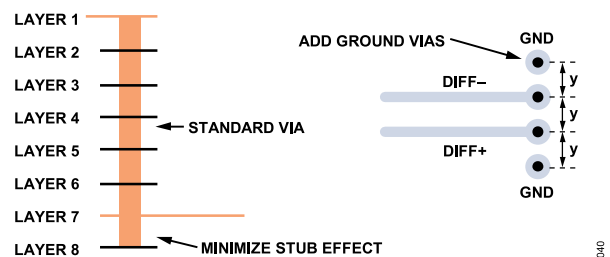

Figure 69. Minimizing Stub Effect and Adding Ground Vias for Differential Stripline Traces
- ▶ If using standard vias, use the maximum via length to minimize the stub size. For example, on an 8-layer board, use Layer 7 for the stripline pair (see Figure 69).
- ▶ For each via pair, place a pair of ground vias adjacent to them to minimize the impedance discontinuity (see Figure 69).